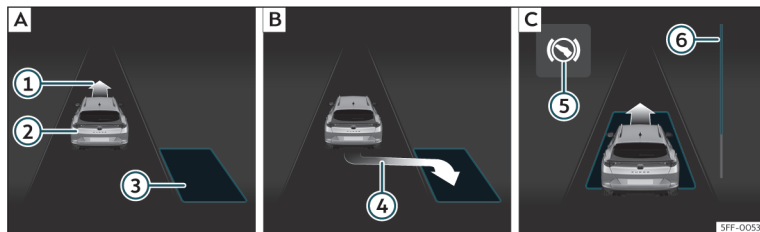
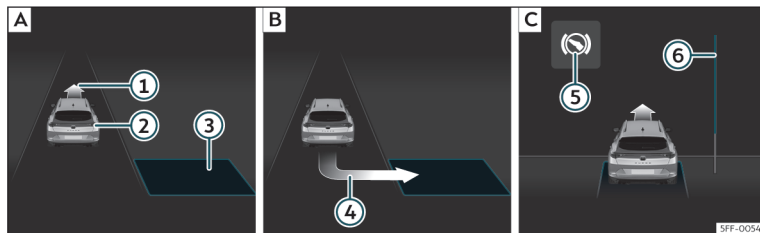

Fig. 180 On the instrument panel display: parallel parking. **[A]** Finding a parking space. **[B]** Parking position. **[C]** Manoeuvring.
Fig. 181 On the instrument panel display: angle parking. **[A]** Finding a parking space. **[B]** Parking position. **[C]** Manoeuvring.
- Look at the display on the instrument panel to see if the space has been detected as “appropriate” and if the correct position for parking has been reached»» **Fig. 180 [B]** or»» **Fig. 181 [B]**. The space is considered
• Reverse until the continuous ParkPilot signal sounds; **OR:** reverse until the indication to move forward appears on the instrument panel display»» Fig. 180 [C] or»» Fig. 181 [C]; **OR:** reverse until the **Park Assist finished** message appears on the instrument panel display. The progress bar ⑥ indicates the distance to cover»» page 274 .
• Press the brake pedal until the parking assist system completes the steering wheel turns; **OR:** until the symbol ⑤ goes out on the instrument panel screen.
• Move forward until the continuous ParkPilot signal sounds; **OR:** move forward until the reverse indication appears on the instrument panel display. The Park Assist system steers the vehicle forward and back until it centres it in the space»» Fig. 180 [C] or»» Fig. 181 [C].
»» Fig. 180 ⑥ and»» Fig. 181 ⑥ on the screen of the instrument panel displays the relative distance to be covered. The greater the distance, the fuller the progress bar. When driving forward, the content of the progress bar decreases upwards, and when reversing, it decreases downwards.